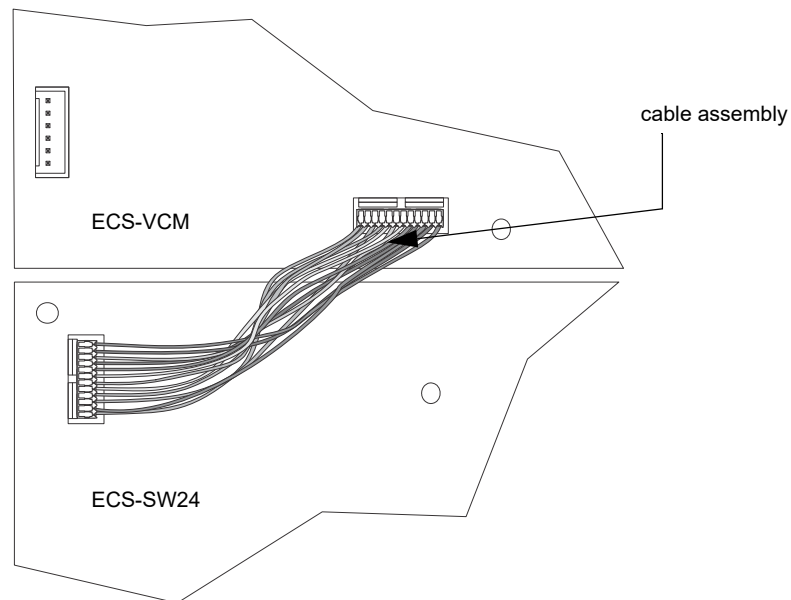
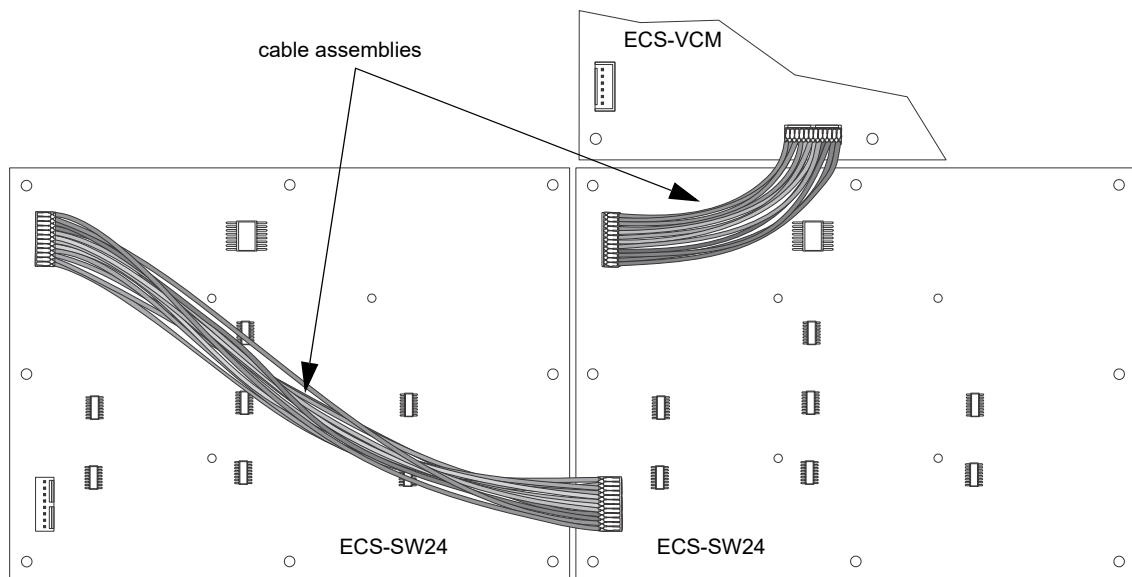

Figure 4.5 Connection for ECS-VCM to ECS-SW24
Figure 4.6 Wiring Harness Connection for Multiple ECS-SW24 Modules
5. Connect one end of the wiring assembly (P/N 130398, supplied) to the ECS-VCM and the other end to the ECS-SW24 as shown in Figure 4.5. If two ECS-SW24 expanders are used (available on IFP-2000ECS and IFP-2100ECS only), connect one ECS-SW24 to the other ECS-SW24 as shown in Figure 4.6.